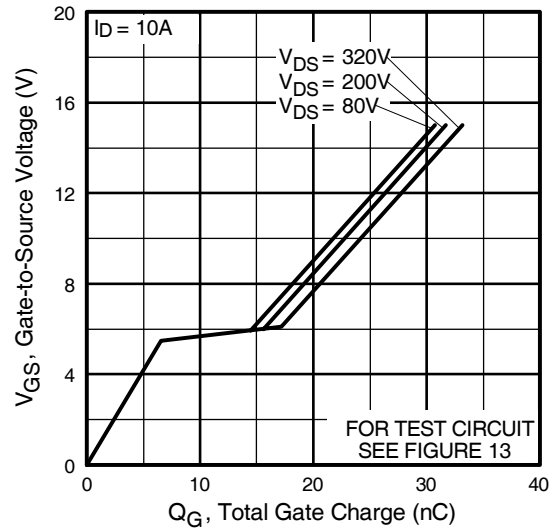

Fig 6. Typical Gate Charge Vs. Gate-to-Source Voltage
| Q_g | Total Gate Charge | — | — | 36 | nC | $I_D = 10A$ $V_{DS} = 320V$ $V_{GS} = 10V$, See Fig. 6 and 13 ④Ⓒ |